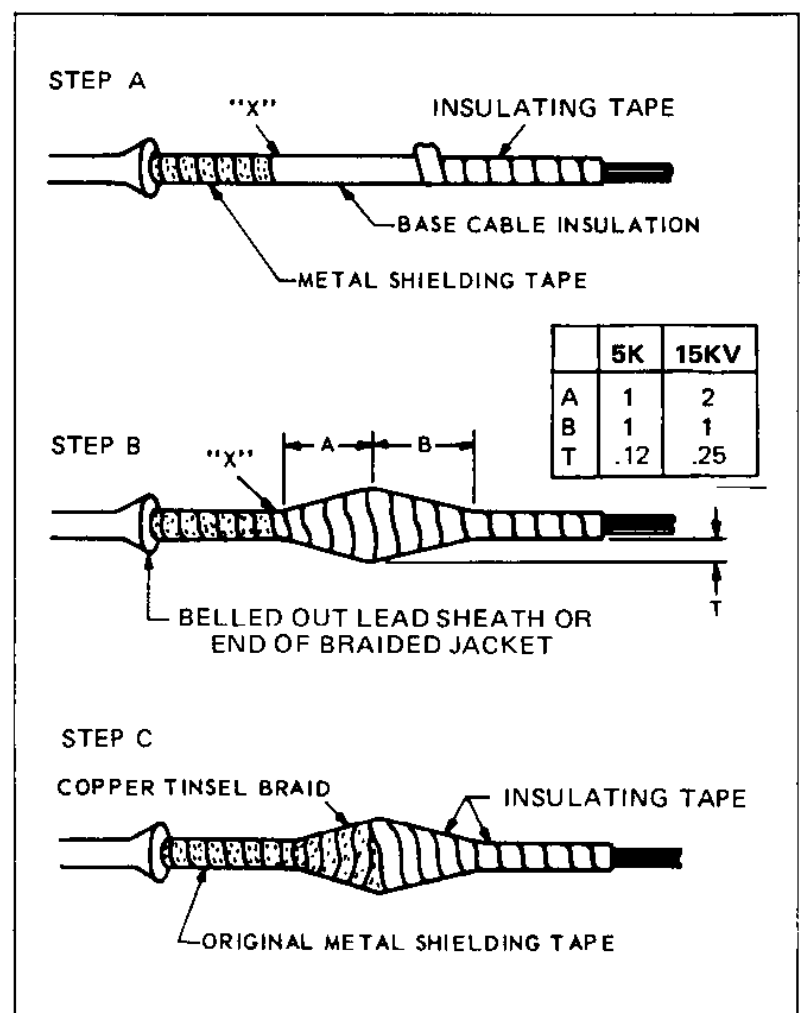

Figure 60. Preparing Cable
5. Remove lead sheath from the cable to point marked, being careful not to damage insulation. Bell out lead sheath as shown in Figure 60. For braided cables, remove braid down to point marked.
8. Solder cables solidly into the studs. (For voltages above 7500, make stress cones on cables as shown in Figure 60.) If stress cones are not desired proceed directly to Step 9.
Remove shielding and conducting tapes down to bottom of stress cone (point "X", Figure 60). Bare the end of the conductor and solder to stud terminal.